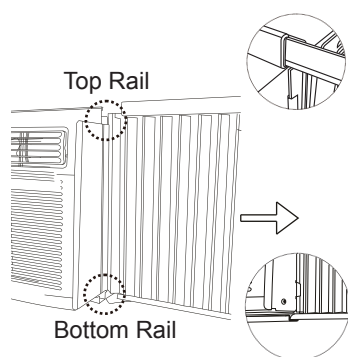

Fig.3
- C. Once the panel has been installed on the side of the cabinet, make sure it sits securely inside the frame channel by making slight adjustments. Slide the top and bottom ends of the frame into the top and bottom rails of the cabinet. Fig. 3.